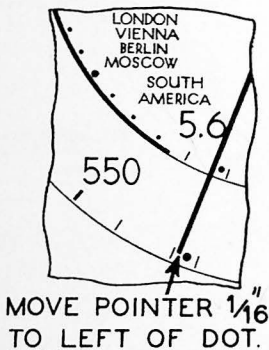

Fig. 6. Dial Calibration Model 4
- Now turn the selector knob clockwise until the dial pointer moves  $1/16$  of an inch to the left of the small dot and the first straight line on the scale (See Fig. 6). Hold pointer and condenser in this position, and carefully loosen shaft coupling set screws.